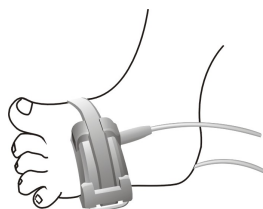

Figure 3.10 Neonate SpO₂ sensor placement
3. If the neonate SpO₂ sensor is used, please follow Figure 3.10 to connect.